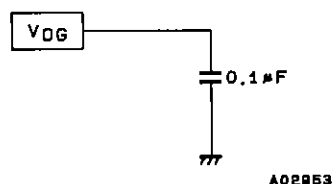

Fig. 2
2. Connect  $V_{OG}$  to ground through a 0.1  $\mu F$  capacitor.(See Figure 2.)